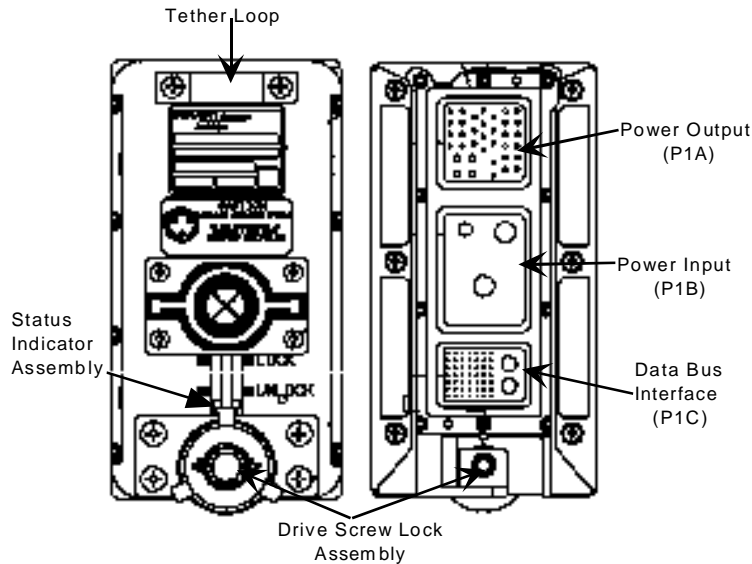

Figure 2.- Remote Power Control Module (Front and Back).
7. Align and insert 7/16" x 6" Wobble Socket Ext into failed RPCM lock assembly until it bottoms out, locking springs have released the drive screw. See Figure 2.
8. Apply constant pressure to release RPCM lock springs without rotational motion, loosen failed RPCM drive screw (nine turns) (Ratchet 3/8" Drive, 7/16" x 6" Wobble Socket Ext). See Figure 2.